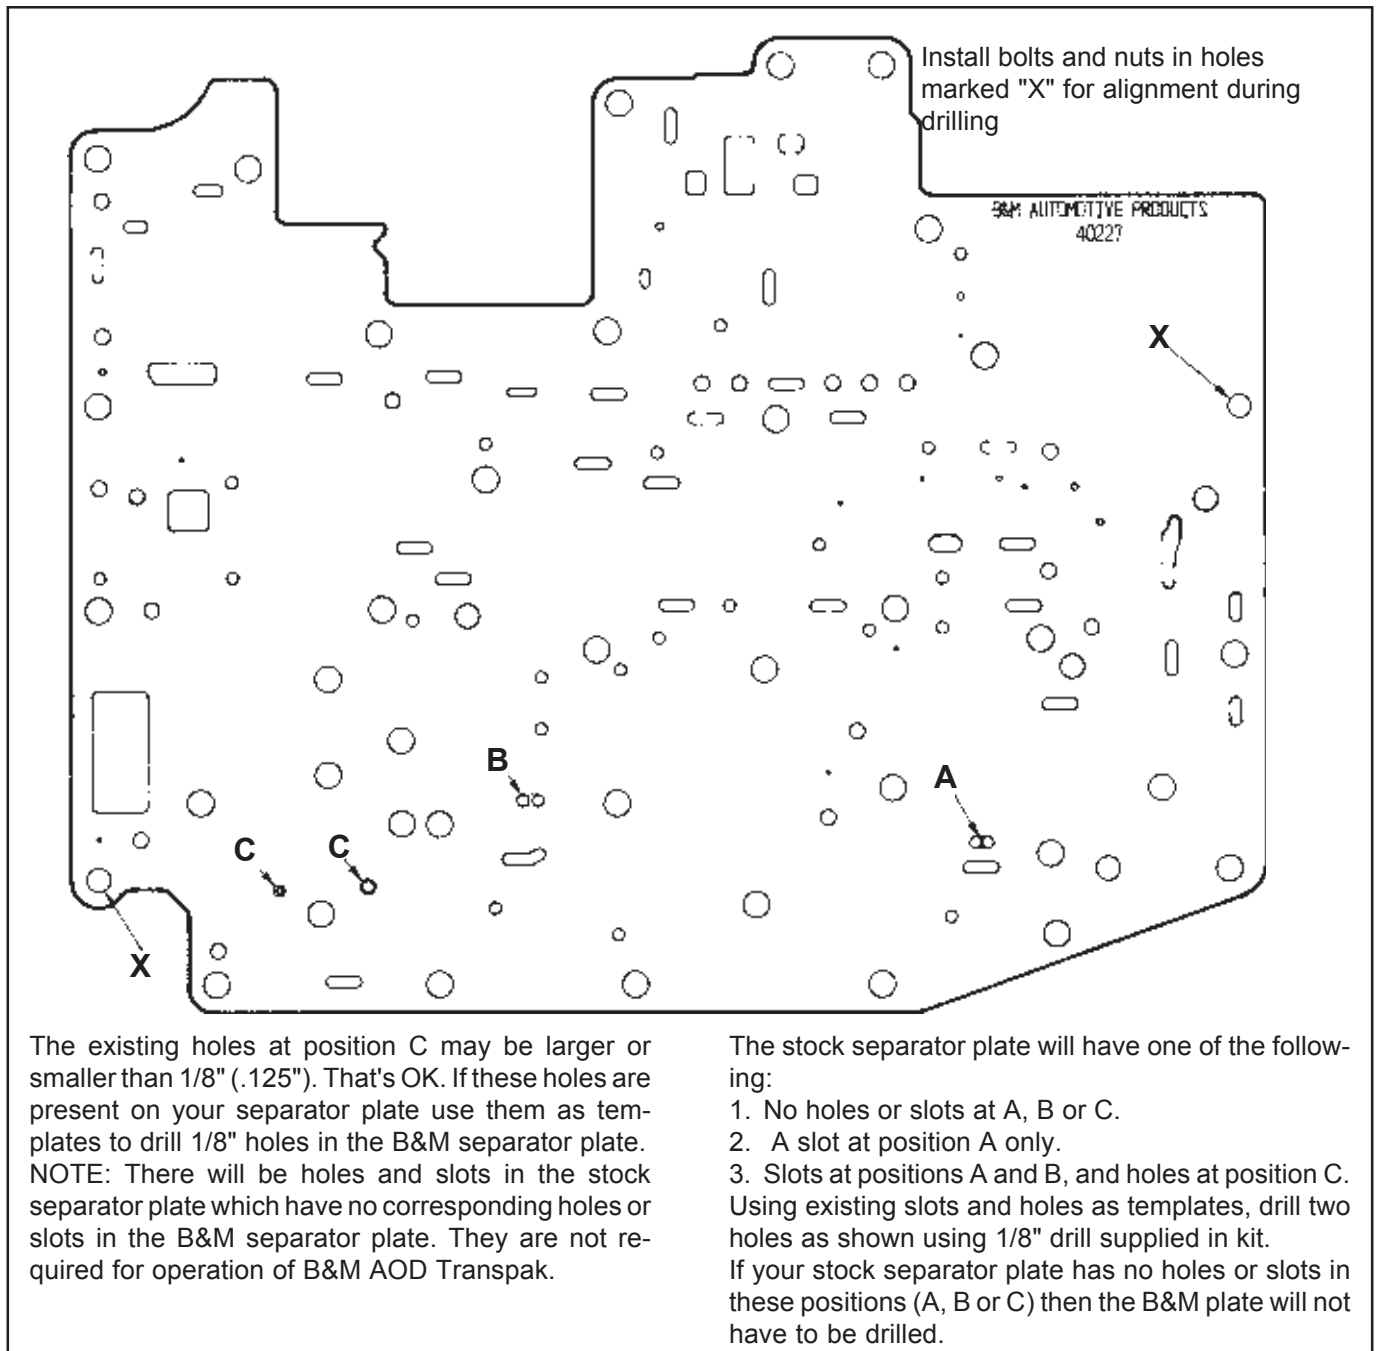

Figure 5
shown. (See Fig 5. Align both separator plate holes and tighten the (2) bolts until they are just snug.
STEP 9. Using the stock separator plate as a template drill holes in the **B&M** AOD separator plate as indicated in **Figure 5**.